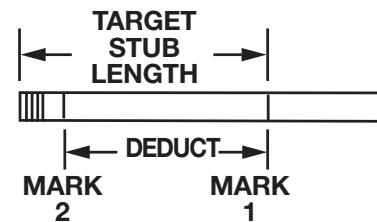

Figure 23
- Make MARK 2 by measuring the DEDUCT (Table 2) from MARK 1 towards the threads. (Fig.23) The distance between MARK 2 to the end of the conduit cannot be less than the MIN. STUB LENGTH.